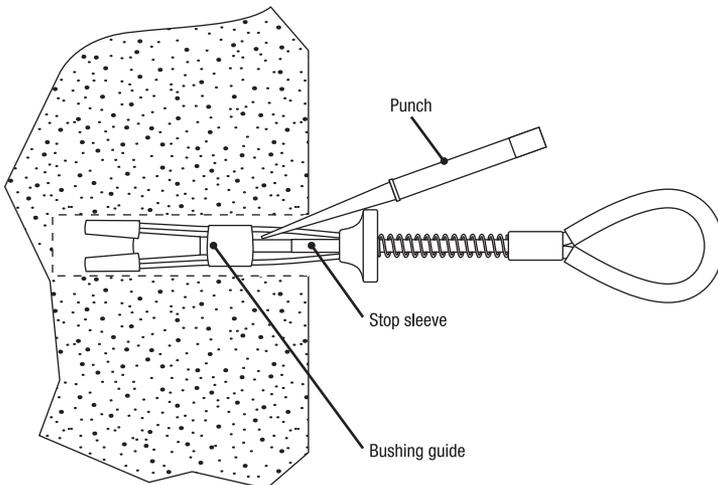

Fig. 4
- 4.3.1 If the Fallpro Wedge Anchor becomes stuck, insert a punch, screwdriver or pointed object into the hole until the tip rests on the striker plate. Give a **light**, blunt tap with a hammer or heavy object. The striker plate will be easily visible at the edge of the hole (*Figure 4*).